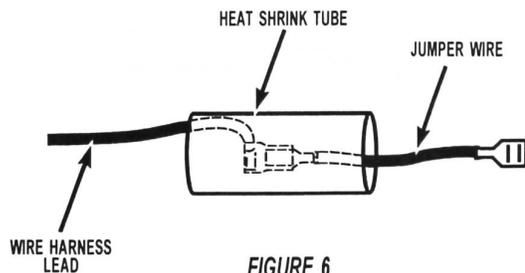

FIGURE 6
**NOTE:** If the wire connecting to terminal (P)5 has a terminal that is too small to fit the switch, use the jumper wire included to adapt to the larger terminal. Use the heat shrink tubing provided to insulate terminals where jumper is connected to the range wiring. Place heat shrink tube so it completely covers the terminals and shrink in place using a heat gun. See figure 6 for typical installation.